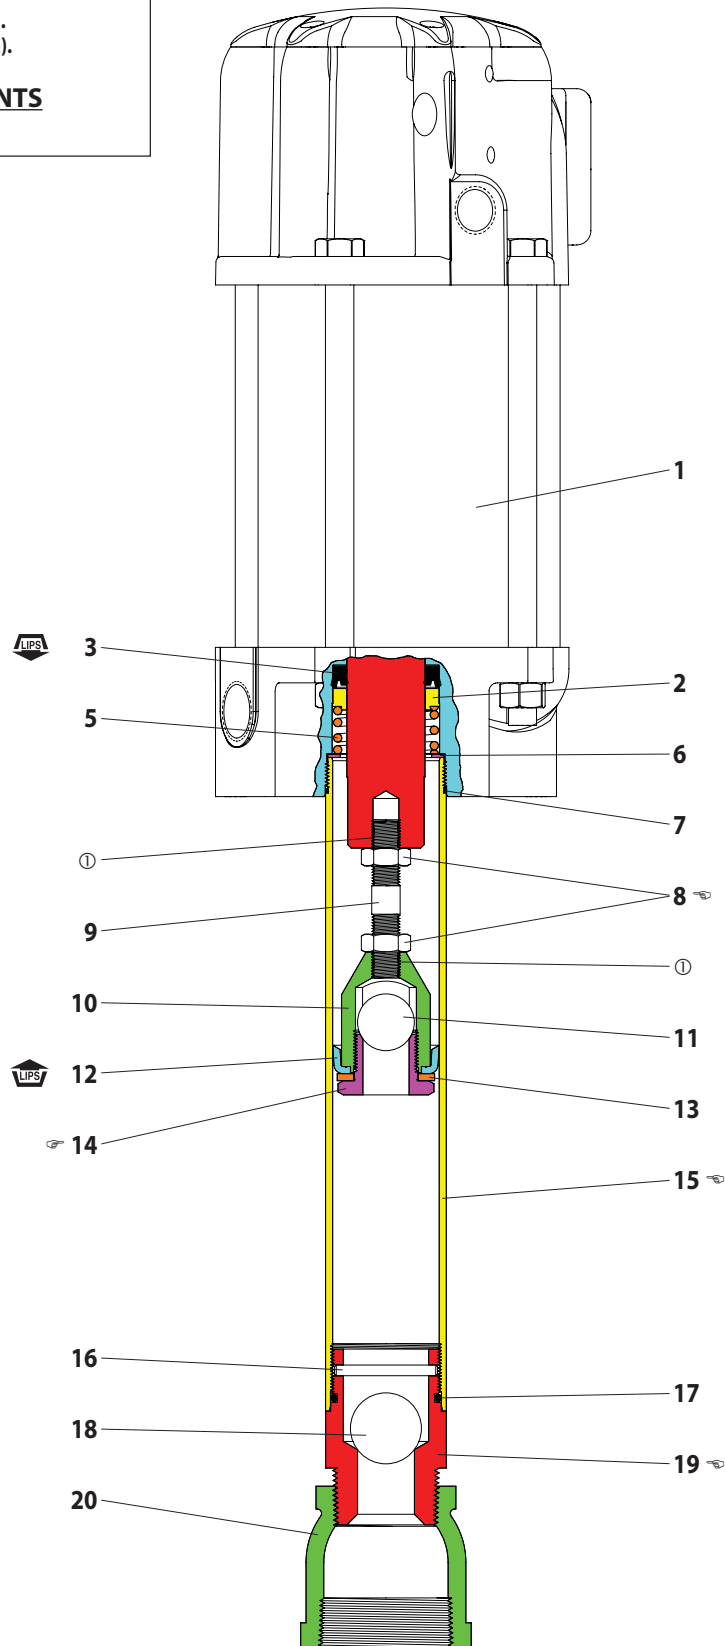

Figure 2
NOTE: Thoroughly clean and lubricate all seals. Replace all soft parts with new ones included in the repair kit. Note: Refer to the illustration (figure 2, page 3) for packing lip direction.
- Assemble (19) foot valve seat and components to (15) tube. NOTE: Tighten (19) foot valve seat to 125 - 150 ft lbs (169.5 - 203.4 Nm).
- Assemble (9) piston rod and (8) nut to (10) cup follower. NOTE: Apply Loctite 242 to threads of (9) piston rod before assembly. NOTE: Tighten (8) nut to 50 - 60 ft lbs (67.8 - 81.3 Nm).
- Assemble (12) cup, (13) washer and (11) ball to (10) cup follower, securing with (14) inner check seat. NOTE: Tighten (14) inner check seat to 65 - 70 ft lbs (88.1 - 94.9 Nm).
- Assemble (3) seal, (2) spacer, (5) spring and (6) washer into cavity in bottom of motor. NOTE: Refer to figure 2, page 3 for packing lip direction.
- Assemble (8) nut and (9) piston rod and components to motor rod, tightening (8) nut against motor rod. NOTE: Apply Loctite 242 to threads of (9) piston rod before assembly. NOTE: Tighten (8) nut to 60 - 70 ft lbs (81.3 - 94.9 Nm).
- Assemble (7) "O" ring to (15) tube and assemble (15) tube over (10) cup follower and components and into air motor base. NOTE: Tighten (15) tube to 90 - 100 ft lbs (122.0 - 135.6 Nm).